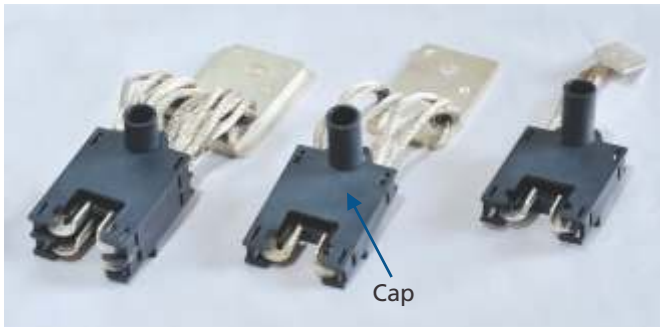

Figure 63 - Power contacts in a contact housing
- Remove the connection of links and power contacts by removing the bolts shown in Figure 63 (1).
- Remove the power contact from it's arm by unscrewing it with the help of a screw driver through provided access as show in Figure 63 (2).
- To remove the fixed power contact, slide them up in the direction indicated in Figure 63 (3)